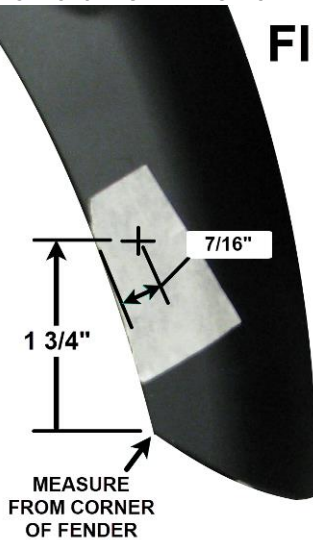

FIG. 1
1. PLACE MASKING TAPE ON THE LEFT SIDE OF THE FRONT FENDER (FIG. 1).
2. MEASURE AND MARK THE CENTER OF THE HOLE TO DRILL AS SHOWN IN FIG. 1.